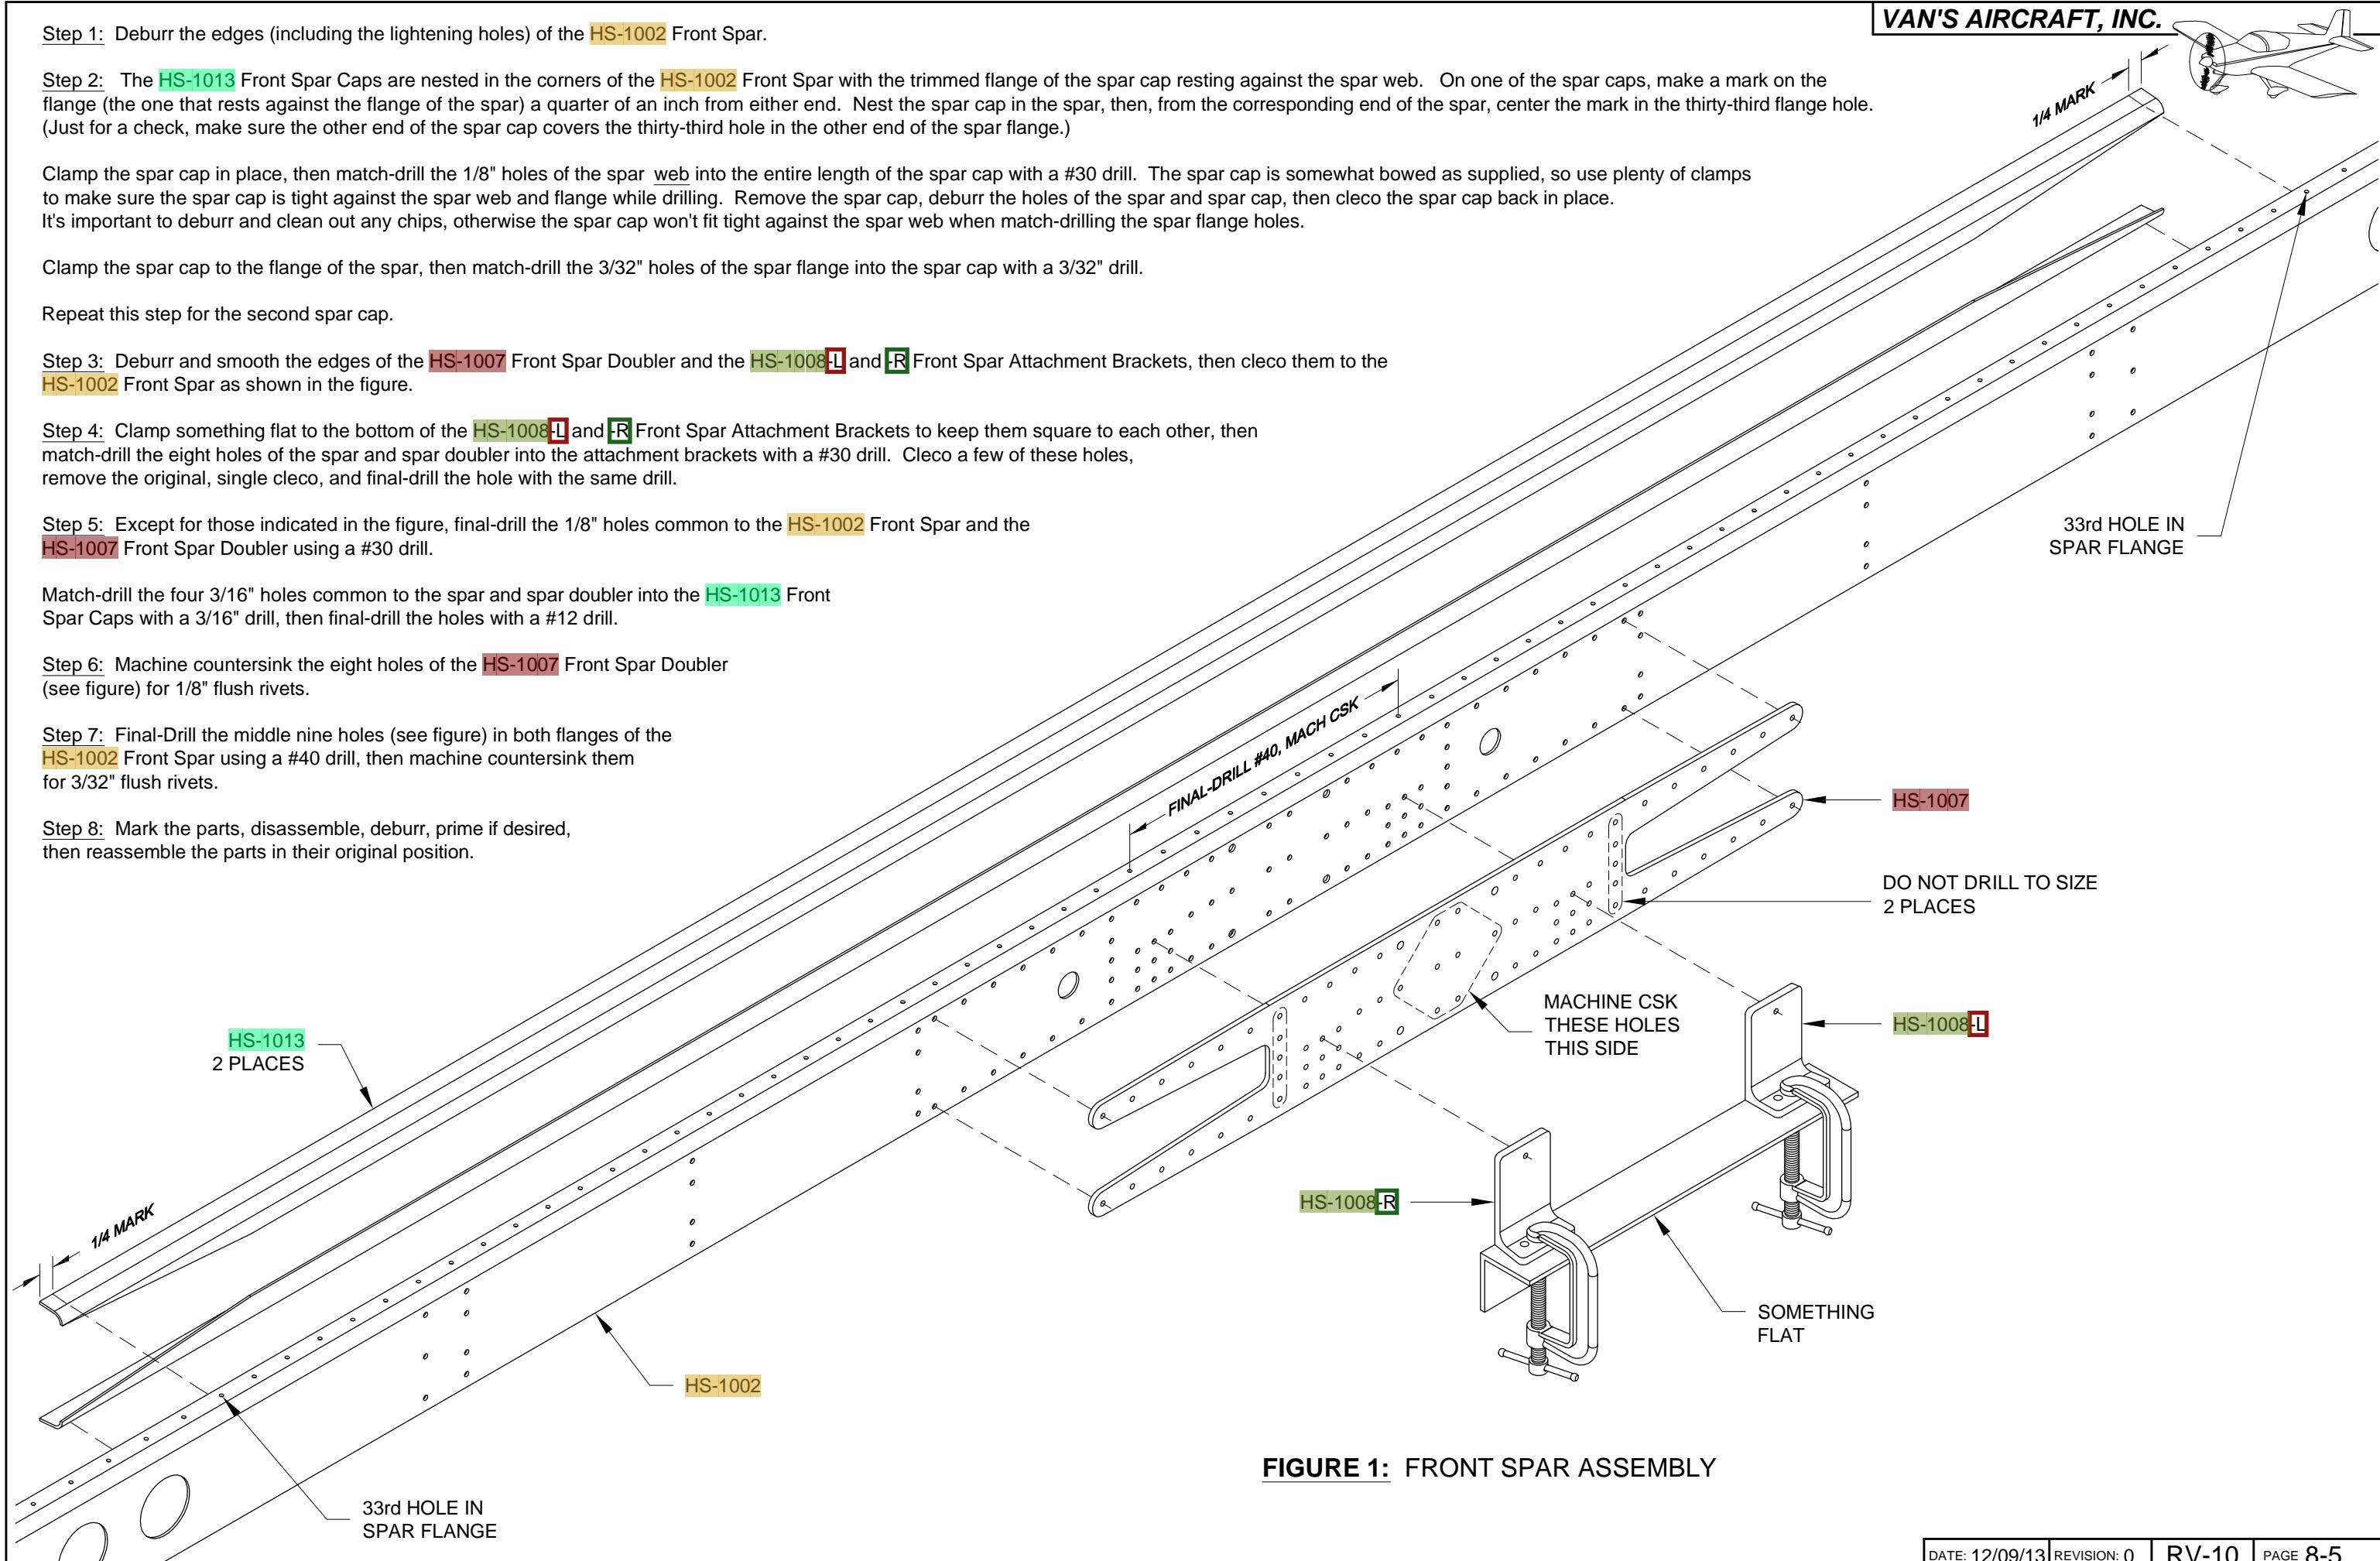

FIGURE 1: FRONT SPAR ASSEMBLY
Step 1: Rivet together the HS-1002 Front Spar, the HS-1007 Front Spar Doubler, the HS-1013 Front Spar Caps, and the HS-1008L and HS-1008R Front Spar Attachment Brackets using the rivets shown in Figure 1. Install only the rivets shown in the figure. Tape over the open holes to keep yourself from accidentally riveting them.